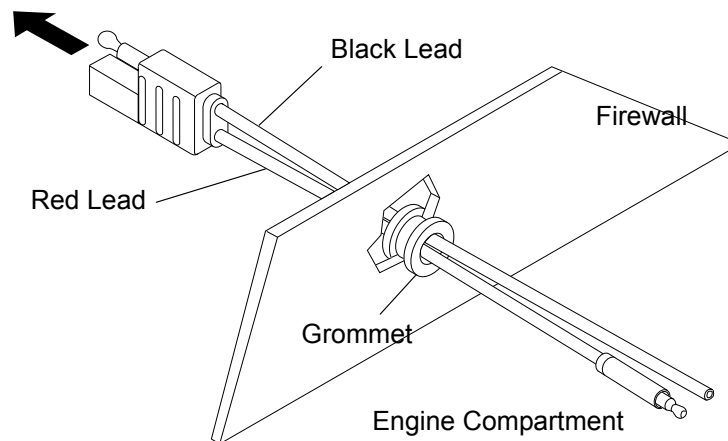

Figure 1 Power Cable Routing into the Engine Compartment
3. From inside the vehicle, feed the red and black leads (without the lugs attached) through the access hole and into the engine compartment. (see Figure 1)